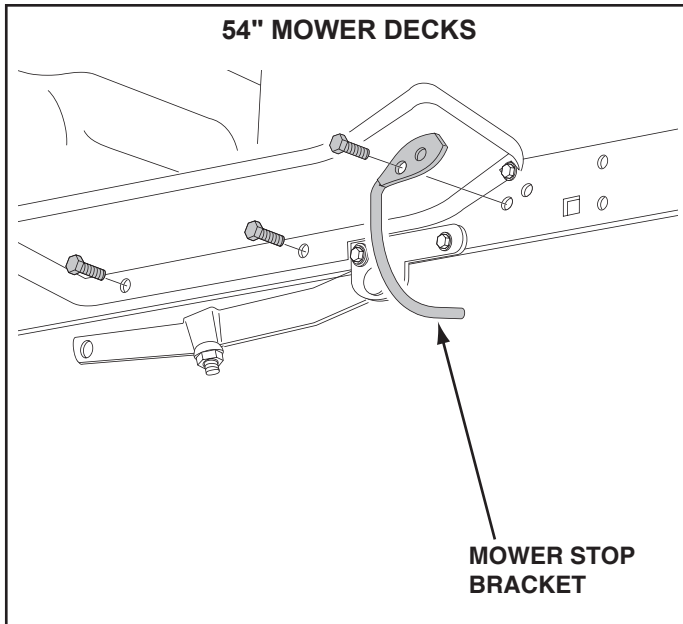

FIGURE 7 **RIGHT SIDE VIEW**
- Remove the two bolts from the bottom of the foot rests on both sides of the tractor frame. See figure 7.